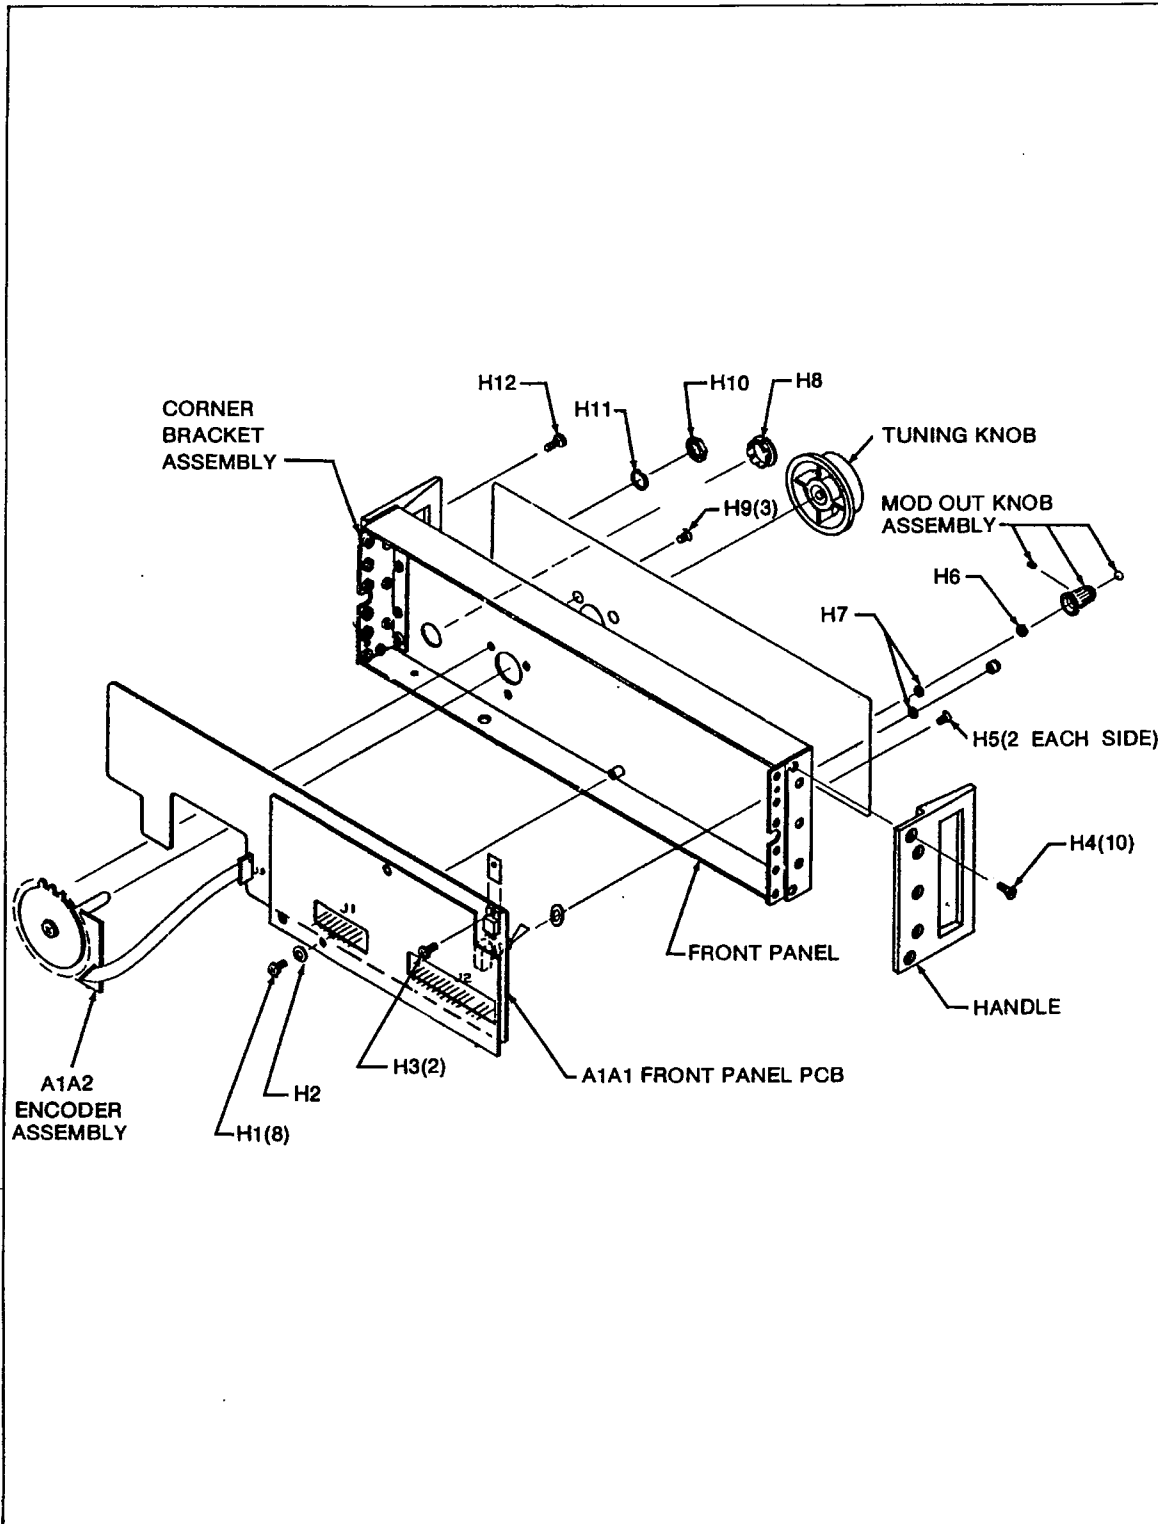

Figure 3-15. Front Panel Assembly
3-77. The Encoder Assembly is located in the Front Panel Assembly as shown in Figure 3-15. The access procedure allows access to remove and replace the Encoder Assembly. Figures 3-9 and 3-15 illustrate the disassembly and assembly procedures.
4. Disconnect the cable from J3 (Figure 3-15).
6. Hold the encoder and remove the three screws (H9, Figure 3-15) that hold the Encoder Assembly to the front panel and lift the assembly away from the front panel.
1. Insert the Encoder Assembly in the front panel as shown in Figure 3-15.
2. Align the screw holes and secure the Encoder Assembly with the three screws H9 removed in the disassembly procedure (Figure 3-15).
4. Connect the cable from the Controller Assembly to J3 (Figure 3-15).
3-84. The A1A1 Front Panel Printed Circuit Board is located in the Front Panel Assembly (Figures 3-9 and 3-15). The access procedure allows access to the printed circuit board for troubleshooting procedures. Figure 3-15 illustrates the disassembly and assembly procedures.
3. Loosen the Allen screw in the MOD OUT knob and remove the knob from the front panel (Figure 3-15).
4. Remove the Hex nuts and washers from the BNC connectors and controls (Figure 3-15).
5. Remove the nylon screw (H3) and eight Phillips head screws (H1) that secure the A1A1 circuit board to the front panel (Figure 3-15).
3. Install the nylon screw (H3) and eight Phillips head screws (H1) removed in the disassemble procedure (Figure 3-15).
5. Install the knob on the MOD OUT control and tighten the allen screw (Figure 3-15).